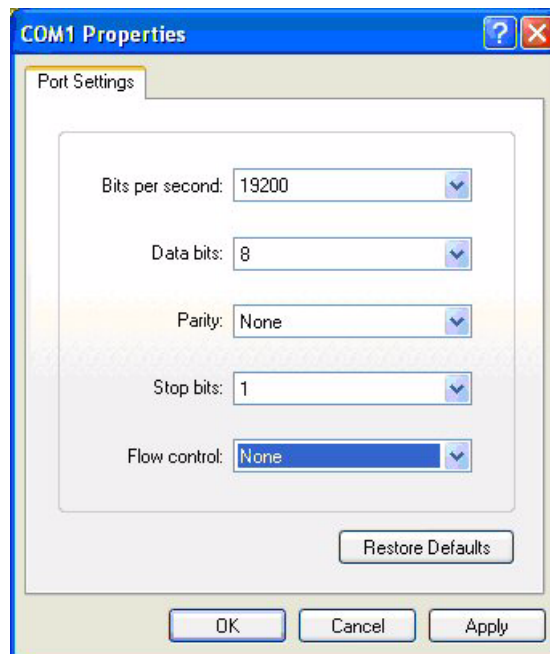

Figure 6-4: Selecting the COM Port Properties
5. Select the COM port properties, then click **OK** (Figure 6-4).